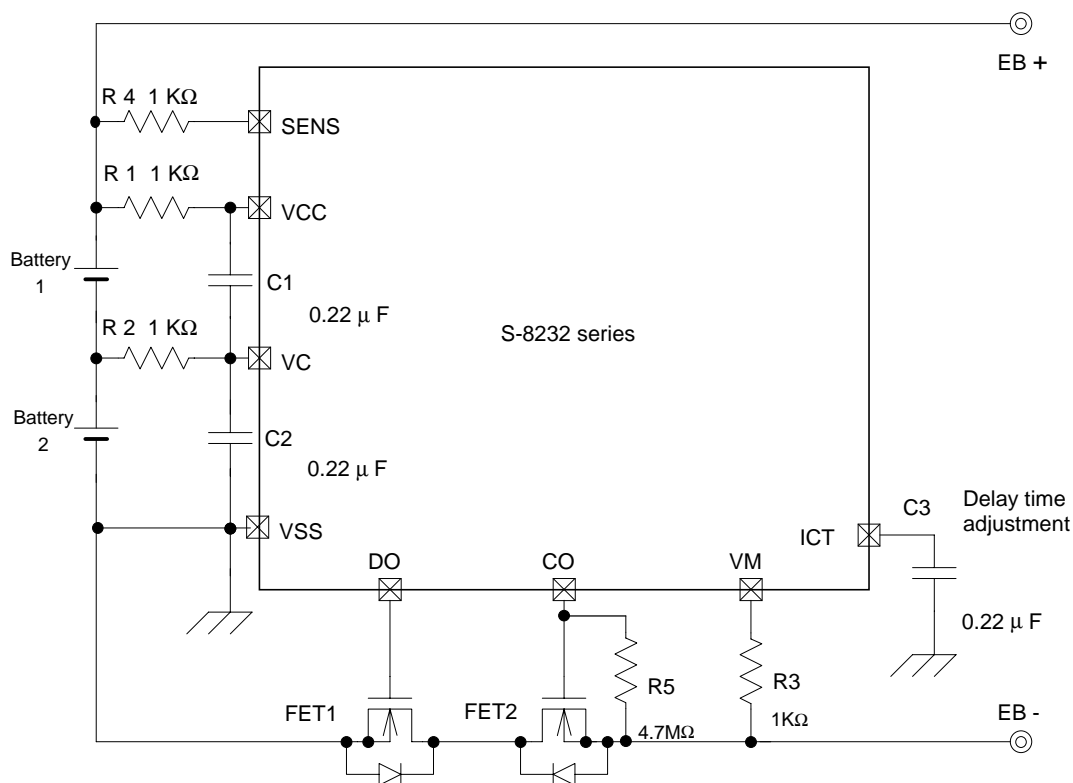

Figure 6
The over current condition returns to the normal condition when the load is released and the impedance between the EB- and EB+ terminals (see Figure 6 for a connection example) is 200MΩ or higher. When the load is released, the VM terminal, which and the VSS terminal are shorted with the Rvsm resistor, goes back to the VSS potential. The IC detects that the VM terminal potential returns to over current detection voltage 1 (VIOV1) or lower and returns to the normal condition.
4.7M Ω resistor is required between CO terminal and EB- terminal. Please refer figure 6.